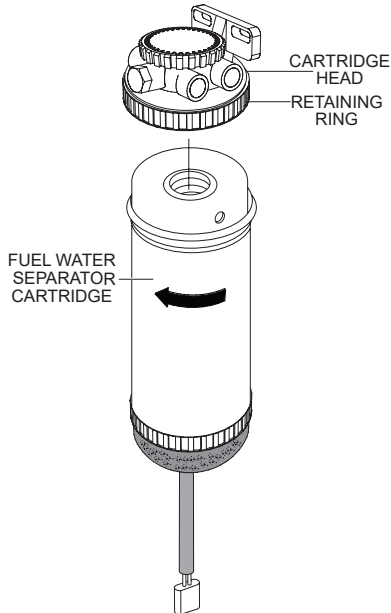

**Figure 181. Fuel Water Separator Sediment Bowl**
1. Remove the **sediment bowl** (Figure 181) from the **fuel water separator cartridge**.